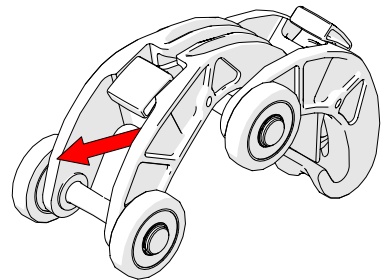

Fig. 56 - Pull the link backwards to secure catch
2. Pull the QuickLink until you hear a click that ensures the latch has been set (Fig. 56).